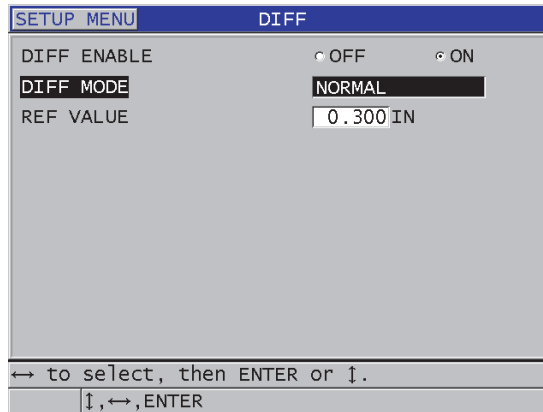

Figure 8-2 The DIFF screen
3. In the **DIFF** screen (see Figure 8-2 on page 131):